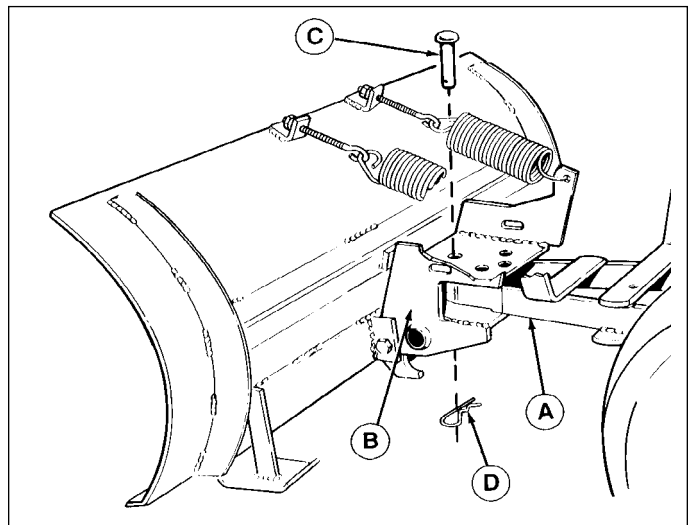

Figure 16. Dozer Blade Assembled and Installed
4. See Figure 16. Insert front of push bar (A) into pivot frame (B) on rear of blade. Then install the pivot pin (C) down thru front holes in hitch and pivot frame. Secure with spring clip (D).